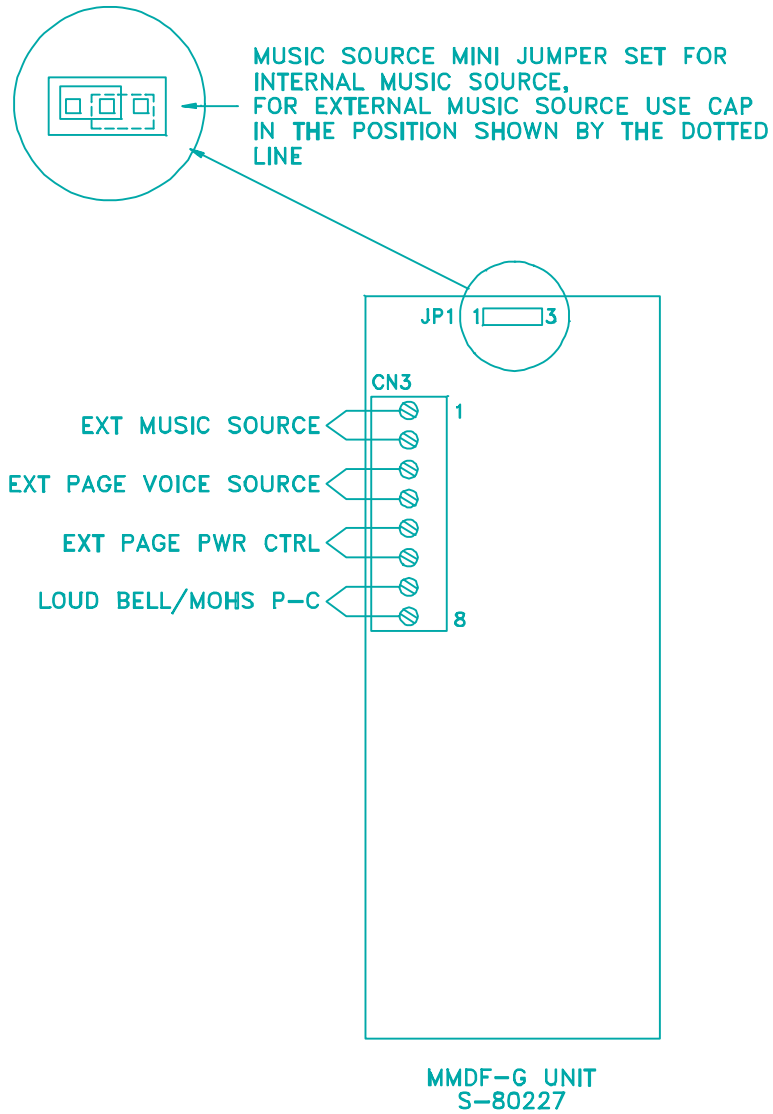

Figure 3: System Services Card (MMDF)
System Services Card (MMDF) Refer to Figure 3.
- 4.17 The following optional equipment connections are located on the MMDF Card (refer to Figure 3):